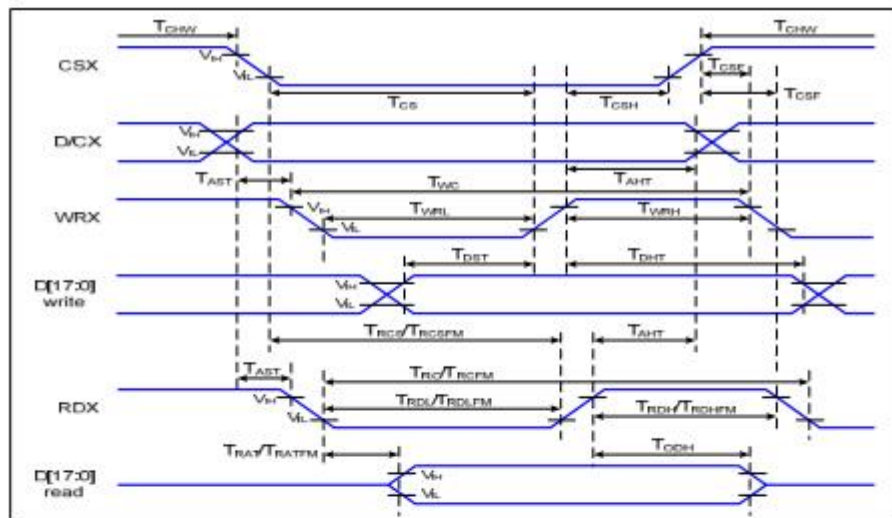

Figure 1 Parallel Interface Timing Characteristics (8080-Series MCU Interface)
The mechanical detail is shown in Fig. 1 and summarized in Table 1 below.
1. Viewing angle is the angle at which the contrast ratio is greater than 10. The viewing angles are determined for the horizontal or 3, 9 o'clock direction and the vertical or 6, 12 o'clock direction with respect to the optical axis which is normal to the LCD surface (see FIGURE 1).
2. Contrast measurements shall be made at viewing angle of $\Theta = 0$ and at the center of the LCD surface. Luminance shall be measured with all pixels in the view field set first to white, then to the dark (black) state. (see FIGURE 1) Luminance Contrast Ratio (CR) is defined mathematically.